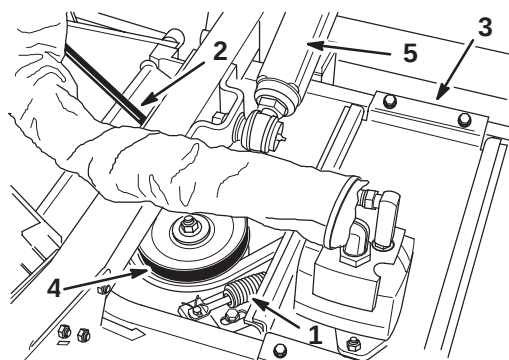
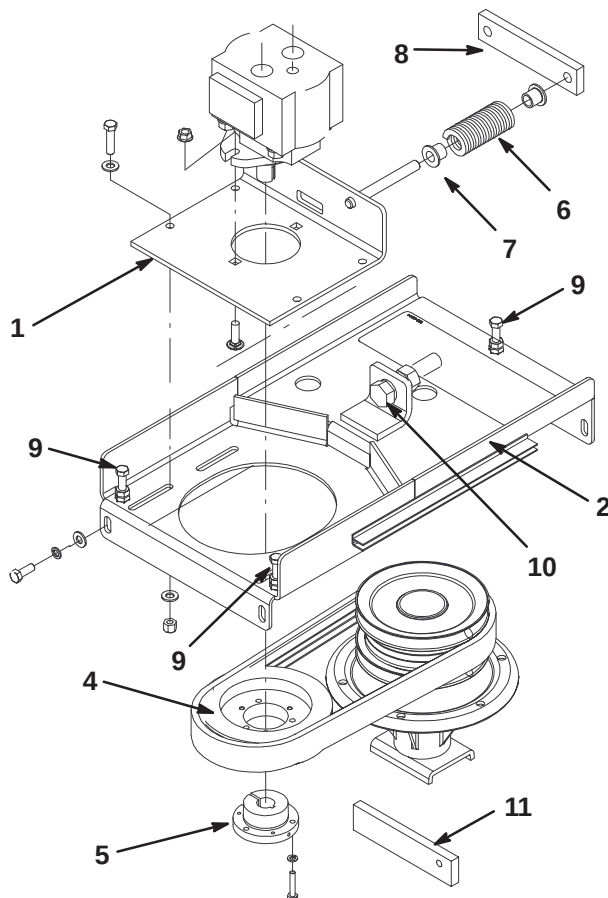
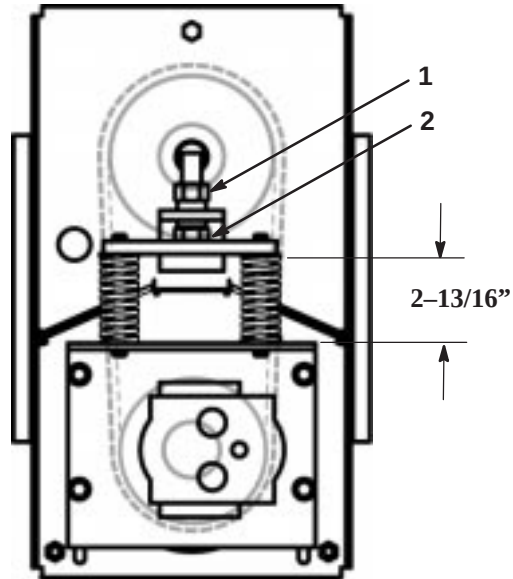

Figure 2
Figure 4
Figure 5
2. Remove flange head screws securing gearbox plate and separate plate and drive motor assembly from the deck (Fig. 2 & 3). Be careful not to bend, twist, kink or damage flexible hydraulic lines.
3. Remove hex head screws and flange locknuts securing each lift arm to the castor arm and separate from the arm (Fig. 2).
Note: Make sure three groove belt is in center pulley of deck spindle (Fig. 4).
7. Loosely secure motor mount to deck with (4) 3/8 x 1" lg. capscrews, lockwashers and flatwashers (Fig. 4).
8. Mount drive motor to slide plate with (2) carriage bolts and flange nuts (Fig. 4).
9. Mount drive pulley to motor shaft with taper lock bushing, (3) screws and (3) lockwashers (Fig. 4). Bushing to be flush with end of shaft within $\pm.06$ ".
10. Insert a compression spring and (2) spring holders onto each side plate rod (Fig. 4). Position a spring holder into end of each spring.
11. Insert slide bar onto side plate rods (Fig. 4).
12. Position slide plate/motor assembly onto motor mount while routing belt around drive pulley (Fig. 4). Be careful not to bend, twist, kink or damage flexible hydraulic lines.
13. Slide the height gauge under drive pulley (not under hub). Equally tighten or loosen (3) adjusting screws (Fig. 4) until bottom of pulley rests on height gauge (approximately 1-1/2"). Tighten nuts to lock adjustment. Remove height gauge.
14. Tighten (4) capscrews securing motor mount to deck.
15. Loosely mount slide plate/motor assembly to motor mount with (4) 3/8 x 1-1/2" lg. capscrews, (8) flatwashers and (4) locknuts (Fig. 4). Washers to be positioned on top of slide plate and under motor mount.
16. Position three groove belt onto drive pulley (Fig. 4).
19. Tighten (4) capscrews securing slide plate to motor mount.
21. Secure each lift arm to the castor arm with hex head screws and flange locknuts (Fig. 2).
23. Loosen jam nut and relieve tension on springs with tensioner bolt (Fig. 4 & 5).
24. Remove (4) capscrews (8) washers and nuts securing slide plate to motor mount.
25. Remove slide bar, (2) springs and spring holders from slide plate rods. Remove slide plate/motor assembly from motor mount while removing belt from drive pulley.
26. Remove hex head screws and flange locknuts securing each lift arm to the castor arm and separate from the arm (Fig. 2).
30. Mount drive motor to slide plate with (2) carriage bolts and flange nuts (Fig. 4).
31. Mount drive pulley to motor shaft with taper lock bushing, (3) screws and (3) lockwashers (Fig. 4). Bushing to be flush with end of shaft within $\pm.06$ ".
32. Insert a compression spring and (2) spring holders onto each side plate rod (Fig. 4). Position a spring holder into end of each spring.
33. Insert slide bar onto side plate rods (Fig. 4).
34. Position slide plate/motor assembly onto motor mount while routing belt around drive pulley (Fig. 4). Be careful not to bend, twist, kink or damage flexible hydraulic lines.
35. Slide the height gauge under drive pulley (not under hub). Equally tighten or loosen (3) adjusting screws until bottom of pulley rests on height gauge (approximately 1-1/2"). Tighten nuts to lock adjustment. Remove height gauge.
36. Tighten (4) capscrews securing motor mount to deck.
37. Tighten tensioner bolt until springs are compressed to a dimension of 2-13/16" (Fig. 5).
39. Tighten (4) capscrews securing slide plate to motor mount.
41. Secure each lift arm to the castor arm with hex head screws and flange locknuts (Fig. 2).